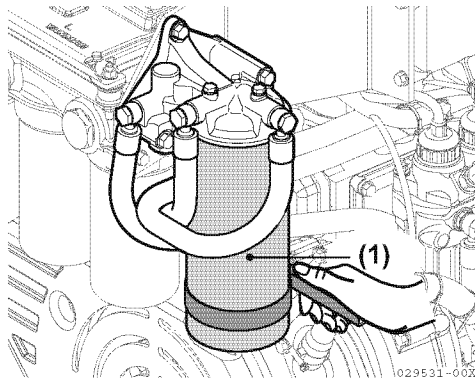

Figure 9
2. Remove the fuel filter element (**Figure 9, (1)**) with a filter wrench.